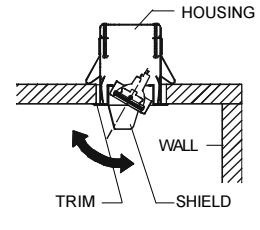

FIG.10
- Push the trim into the housing and position the lamp shield as shown. (Fig.10)
- Position the fixture a minimum of 12" away from the wall. (Fig.10)